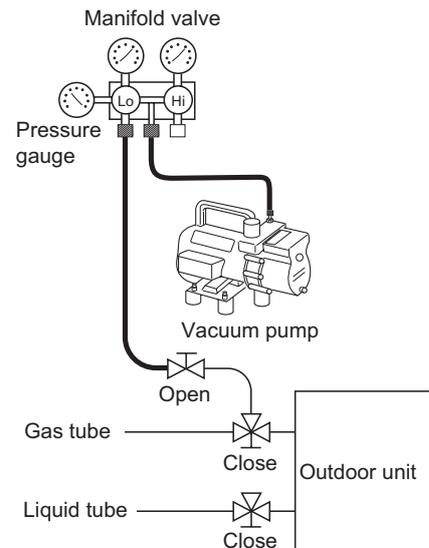

Fig. 1- 65
- (1) Attach the charge hose end described in the preceding steps to the vacuum pump to evacuate the tubing and indoor unit. Confirm that the “Lo” knob of the manifold valve is open. Then, run the vacuum pump.
- (2) When the desired vacuum is reached, close the “Lo” knob of the manifold valve and turn off the vacuum pump. Confirm that the gauge pressure is under  $-101\text{ kPa}$   $\{-755\text{ mmHg}, 5\text{ Torr}\}$  after 4 to 5 minutes of vacuum pump operation. (Fig. 1- 65)